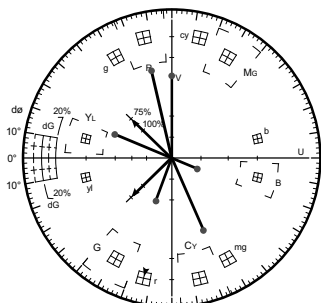

Fig. 4-27
- Repeat adjust from (30).7.3.(A).1. to (33).7.3.(A).3. until both Chrominance Phase and Gain are adjusted to proper position as shown in Fig. 4-27 and Table 4-36.